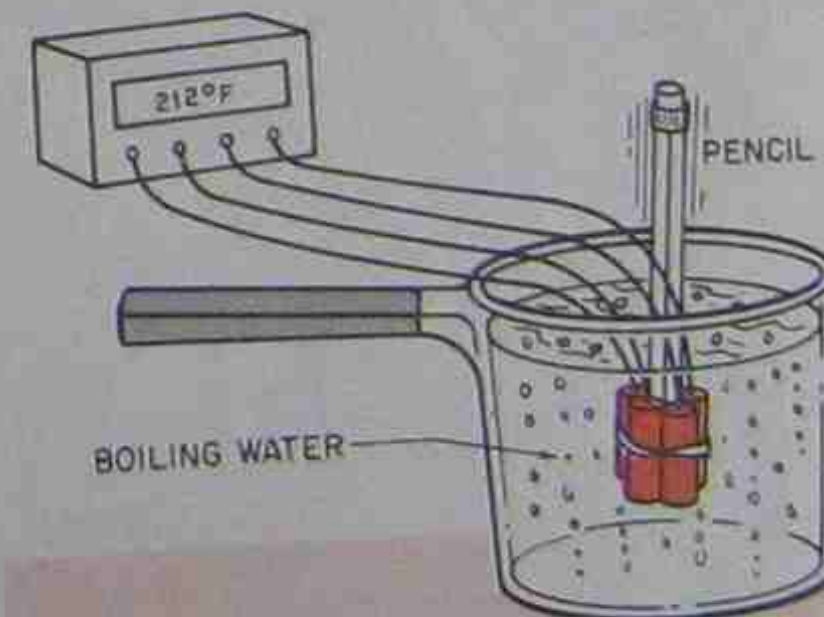

Figure 9-10. High-temperature test for accuracy of four temperature leads.
6. For a high-temperature check, put a pan of water on a stove-top eye and bring the water to a boil. Make sure the thermometers you are checking indicate up to 212°F. If they do, immerse them in the boiling water. \*Do not let them touch the bottom of the pan or they may conduct heat directly from the heat to the lead, Figure 9-10.\* Stir the thermometers for at least 5 min and check the readings. It is not critical that the thermometers be accurate to a perfect 212°F, because with products at these temperature levels, a degree or two one way or the